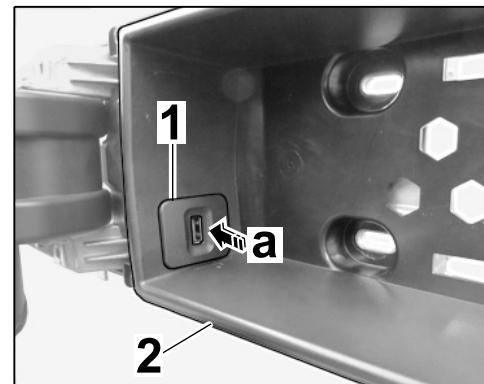

Figure 11
3.3 Clip USB interface \Rightarrow *Figure 11-1-* into center console \Rightarrow *Figure 11-2-* (\Rightarrow *Figure 11-a-*).